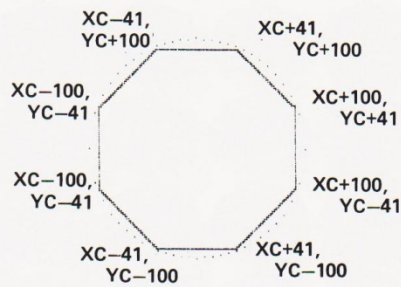
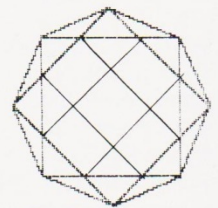

Fig. 18
Fig. 24
When the circumference of the basic circle is divided into eight equal parts, the regular octagon is the result; when its vertices are picked out from an accurate drawing on squared paper (or calculated) Figures 18 and 19 are obtained.
- PROCOCT1 (2000-2100) draws the octagon in Figure 18.
- PROCC5 (3100-3430) Using the octagon in Figure 18; drawing extra lines (Figure 24) will produce a series of small squares enclosing another star.
- 10 - 280 The main program using the octagon of Figure 18.